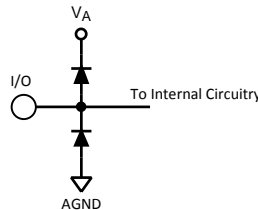

Figure 2.
- (1) The inputs are protected as shown below. Input voltage magnitudes above V_A or below GND will not damage this device, provided current is limited per Note 4 of the Absolute Maximum Ratings Table. However, errors in the A/D conversion can occur if the input goes above V_A or below GND by more than 100 mV. As an example, if V_A is +3.3V, the full-scale input voltage must be $\leq +3.4V$ to ensure accurate conversions. See Figure 2.
- (2) To ensure accuracy, it is required that $|V_A - V_D| \leq 100$ mV and separate bypass capacitors are used at each power supply pin.
- (3) With the test condition for $V_{REF} = +1.0V$ (2V_{P-P} differential input), the 12-bit LSB is 488 μV.
- (4) Typical figures are at $T_J = 25^\circ C$, and represent most likely parametric norms. Test limits are to AOQL (Average Outgoing Quality Level).
- (5) Integral Non Linearity is defined as the deviation of the analog value, expressed in LSBs, from the straight line that passes through positive and negative full-scale.
- (6) Optimum performance will be obtained by keeping the reference input in the 0.8V to 1.2V range. The LM4051CIM3-ADJ (SOT-23 package) is recommended for external reference applications.
- (7) This parameter is specified in units of dBFS - indicating the equivalent value that would be attained with a full-scale input signal
- (3) With the test condition for $V_{REF} = +1.0V$ (2V_{P-P} differential input), the 12-bit LSB is 488 µV.
- (3) With the test condition for $V_{REF} = +1.0V$ ($2V_{P-P}$ differential input), the 12-bit LSB is 488 μV .
- (4) Timing specifications are tested at TTL logic levels, $V_{IL} = 0.4V$ for a falling edge and $V_{IH} = 2.4V$ for a rising edge.
- (5) Typical figures are at $T_J = 25^\circ C$, and represent most likely parametric norms. Test limits are to AOQL (Average Outgoing Quality Level).
- (6) This parameter is ensured by design and/or characterization and is not tested in production.